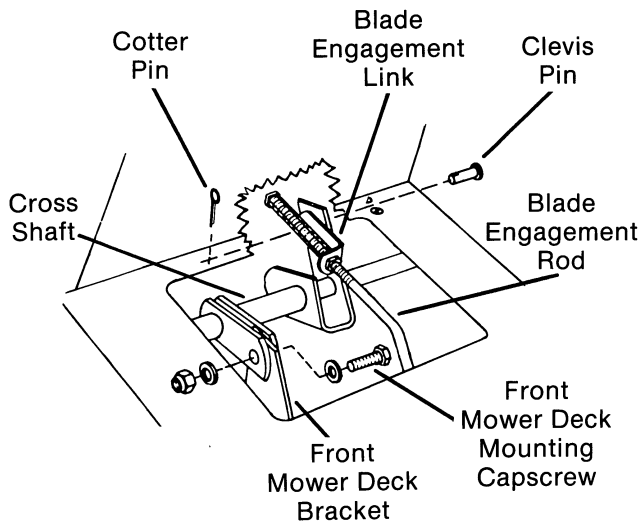

FIG. 10
- C. Remove cotter pin and clevis pin securing blade engagement link to mower drive crank. (Fig. 10)
- D. Remove capscrew, washers and locknut securing cross shaft assembly to front mower deck bracket. (Fig. 10)
- H. Lift blade engagement rod and rotate rod to the left to clear the cross shaft. (Fig. 10)
**NOTE:** During remounting of mower deck, be sure blade engagement rod is positioned above the cross shaft. (Fig. 10)